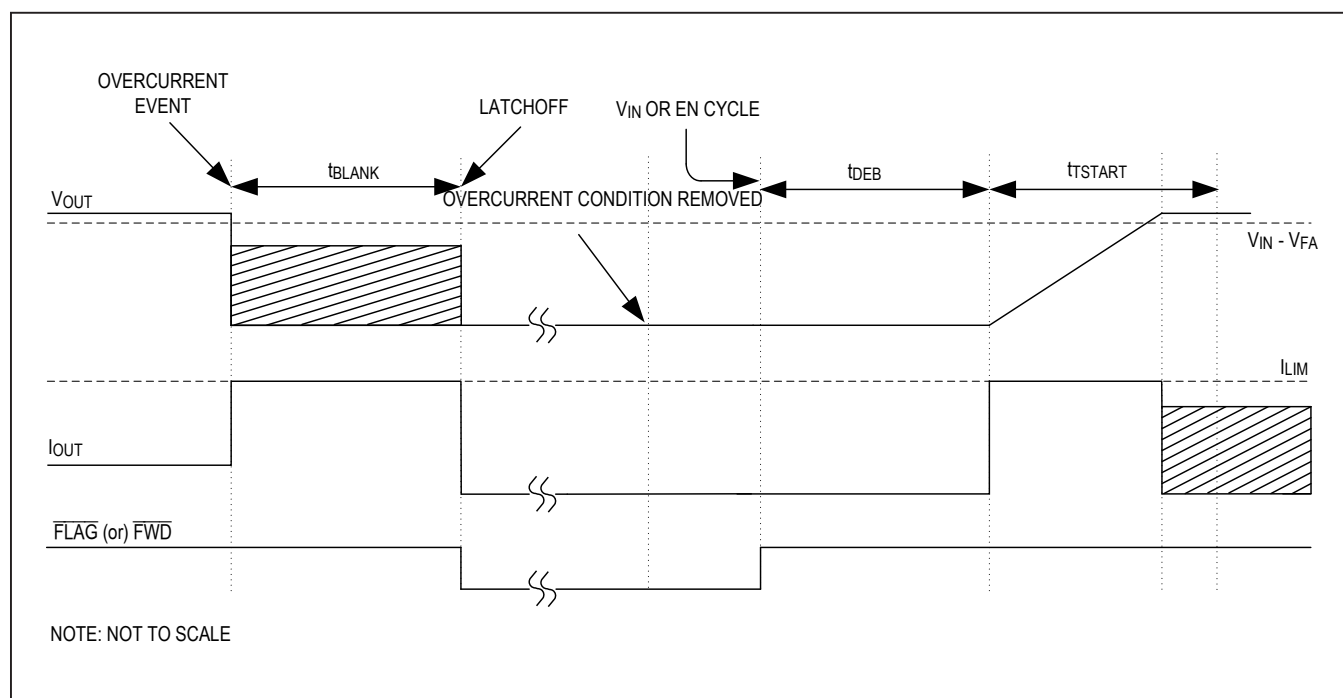

Figure 9. Overcurrent Fault Timing Diagram in Latchoff Current-Limit Mode
In latchoff current-limit mode during startup, the device operates in continuous current-limit mode until t_{TSTART} . The timer t_{TSTART} resets if the output voltage V_{OUT} reaches $(V_{IN} - V_{FA})$ within t_{TSTART} and then the normal operation continues. If the overcurrent condition is present for longer than startup blanking time (t_{TSTART}), the output NFET Q2 is turned off and latched, the timer t_{TSTART} resets, and the $\overline{FLAG}$ (or $\overline{FWD}$) pin asserts. To reset the device, either toggle the enable control signal (EN) or cycle the input voltage. Figure 9 depicts a typical startup behavior in latchoff current-limit mode.
In latchoff current-limit mode during normal operation, if the device enters an overcurrent condition, the t_{BLANK} timer starts. The t_{BLANK} timer resets as and when the overcurrent condition resolves before the t_{BLANK} duration has elapsed, and then the normal operation continues. If the overcurrent condition exists for the t_{BLANK} duration or if the device junction temperature reaches T_{JC_MAX} , the output NFET Q2 is turned off and latched, the t_{BLANK} timer resets, and the $\overline{FLAG}$ (or $\overline{FWD}$) pin asserts. To reset the device, either toggle enable control signal (EN) or cycle the input voltage. Figure 9 depicts a typical operating behavior in latchoff current-limit mode.